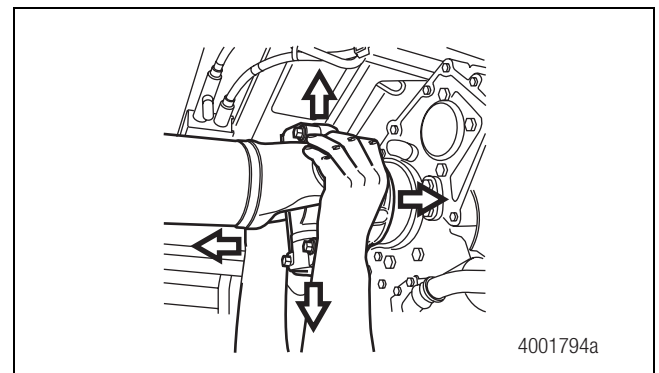

Figure 3.3
- B. Try to move the yoke UP-AND-DOWN and SIDE-TO-SIDE by applying at least 50 lb-ft (222.5 N•m) of force to the driveline near the universal joints. Figure 3.3.